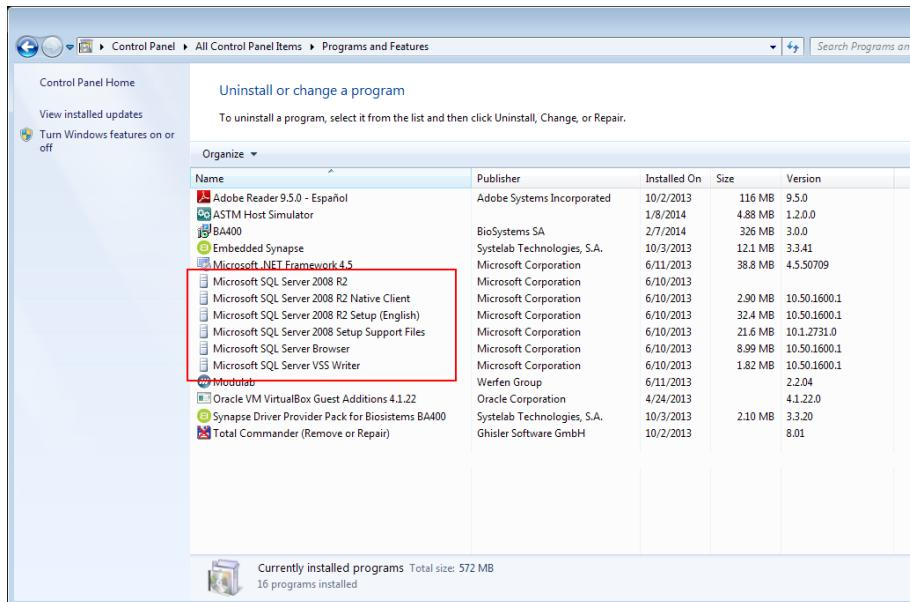

Ilustración 9.1 Programmes installed in the SQL Server
2. Check that the SQLServer programmes installed are like the ones shown in Figure 9.1.